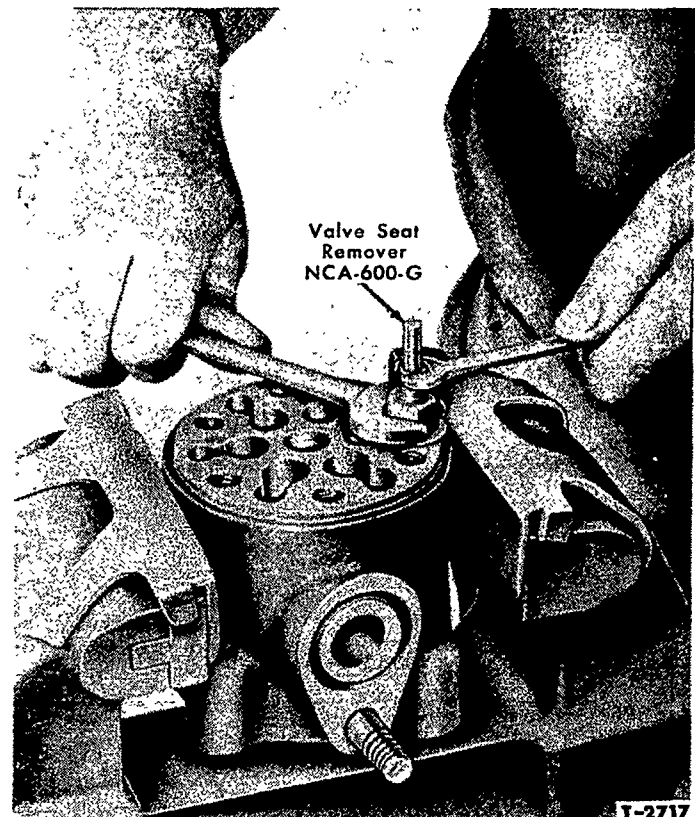

Figure 24—Removing Inlet Valve Seats from Body
10. Remove the intake valve seats from the body with Valve Seat Remover, NCA-600-G as shown in Figure 24.
6. Remove the intake valve seats from the body with Valve Seat Remover NCA-600-G, as shown in Figure 24.